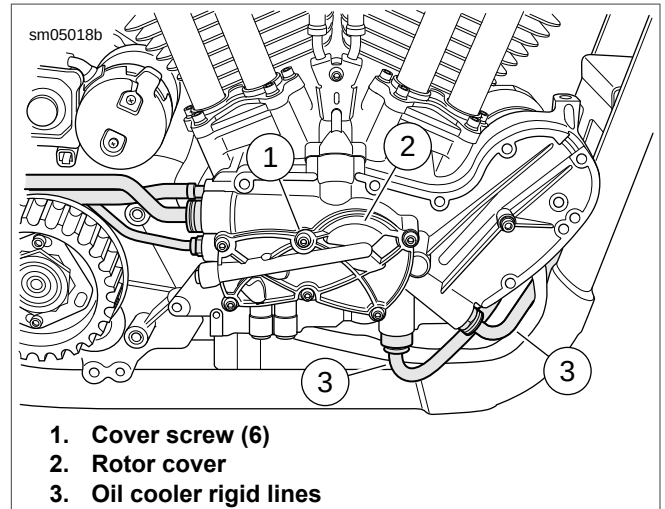

Figure 3-139. Oil Pump Rotor Cover: XR 1200X
5. See Figure 3-139. Remove oil cooler rigid lines (3) from gearcase cover. See 3.12 PRECISION COOLING SYSTEM: XR 1200X, Oil Pump Lines.
6. Remove six screws (1) and remove oil pump cover (2). Discard cover O-rings.
5. Install each outer rotor (1) in its original location.
6. Install each inner rotor (2) in its original location.
7. See Figure 3-139. Install **new** O-rings in oil pump rotor cover and install cover using six fasteners (1). Tighten fasteners to 90-120 **in-lbs** (10.2-13.6 Nm).
8. Install oil cooler rigid lines (3) to quick connect fittings. See 3.12 PRECISION COOLING SYSTEM: XR 1200X, Oil Pump Lines.